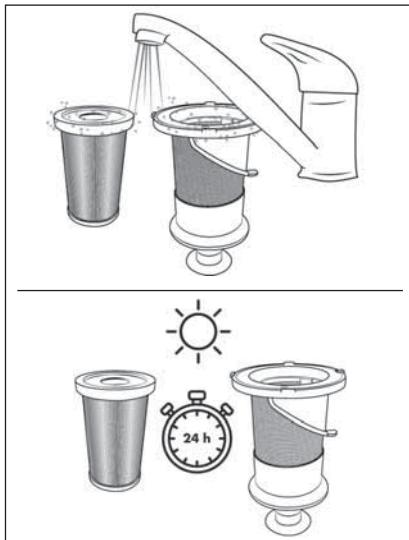

Fig. 20
- 5) Rinse the HEPA filter ④ and the stainless steel filter ⑤ under cold or lukewarm water. Allow the HEPA filter ④ and stainless steel filter ⑤ to air dry completely before putting them back into the dust container ⑥ (see Fig. 20).
- When cleaning the stainless steel filter ⑤, take care not to lose the rubber supports on the lower opening.